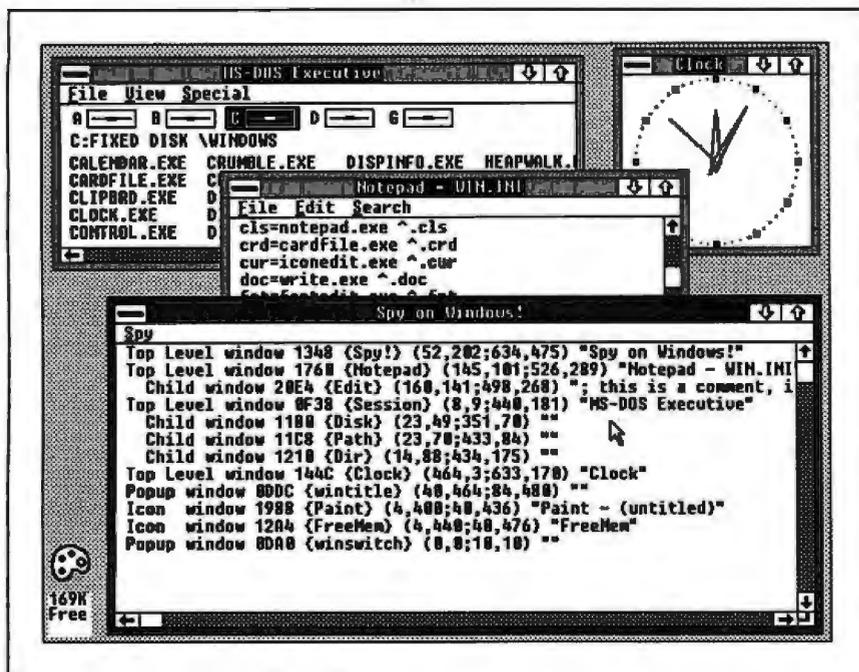

Figure 1: Spy's summary view, showing each window's handle, class name, location, size, and title.
I've used Spy both to investigate techniques used in other Windows applications and to help track down bugs in my own applications. Figures 1 and 2 show Spy on a typical mission, displaying the list of
Figure 1 shows Spy's summary view—one line per window with the basic information
- The window class name, shown in figure 1 inside curly braces. Every window belongs to one window class or another, and window classes are identified by name. Many windows can belong to the same class, giving you an easy way to create multiple windows that operate similarly. For example, every editable text field in a dialog box is a child window belonging to the Edit window class.
Child windows are used extensively in Windows applications, as figure 1 shows. They are a handy way to provide different kinds of behavior in different areas of a single application window, since each